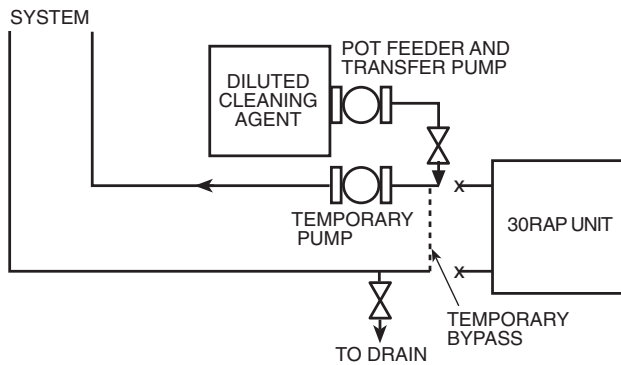

Fig. 25 — Typical Set Up for Cleaning Process
1. Install a temporary bypass around the chiller to avoid circulating dirty water and particulates into the pump package and chiller during the flush. Use a temporary circulating pump during the cleaning process. Also, be sure that there is capability to fully drain the system after cleaning. (See Fig. 25.)